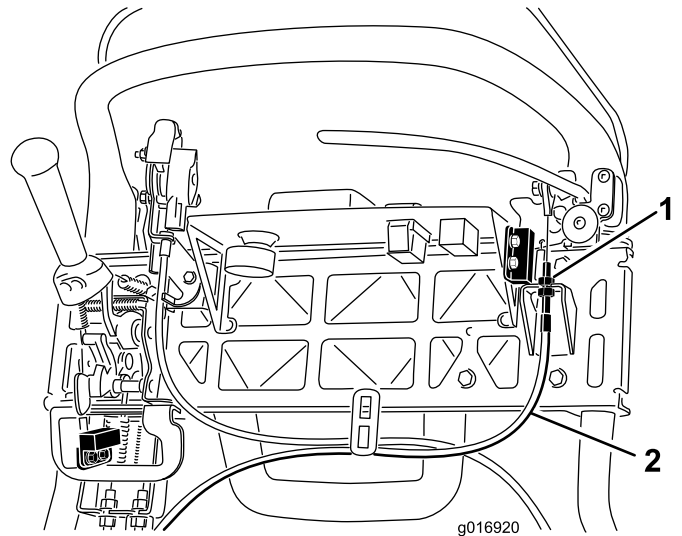

Figure 40
4. To increase the cable tension, loosen the upper cable jam nut and tighten the lower cable jam nut (Figure 40) until a force of 35 lb (156 N) applied to the brake lever handle, is required to release the parking brake latch. Do not over adjust or the brake band may drag.